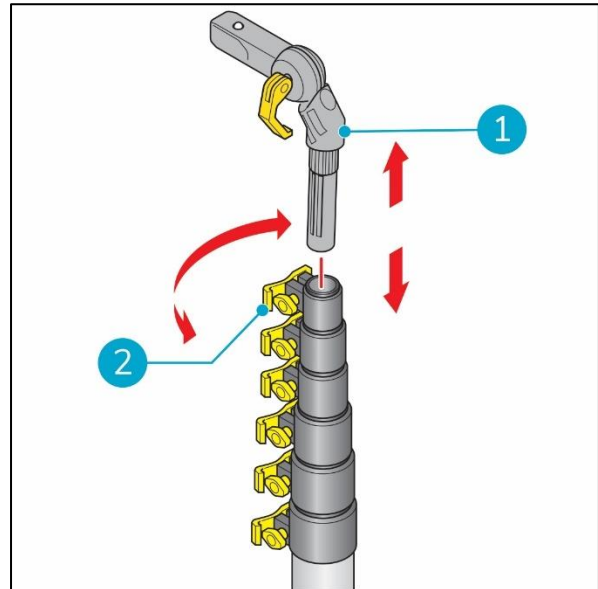

Figure 9
2. Unlock the yellow clamp of the top tube (Figure 9, pos 2).
3. Pull the gooseneck (Figure 9, pos 1) out of the top tube.
6. Lock the yellow clamp (Figure 9, pos 2).